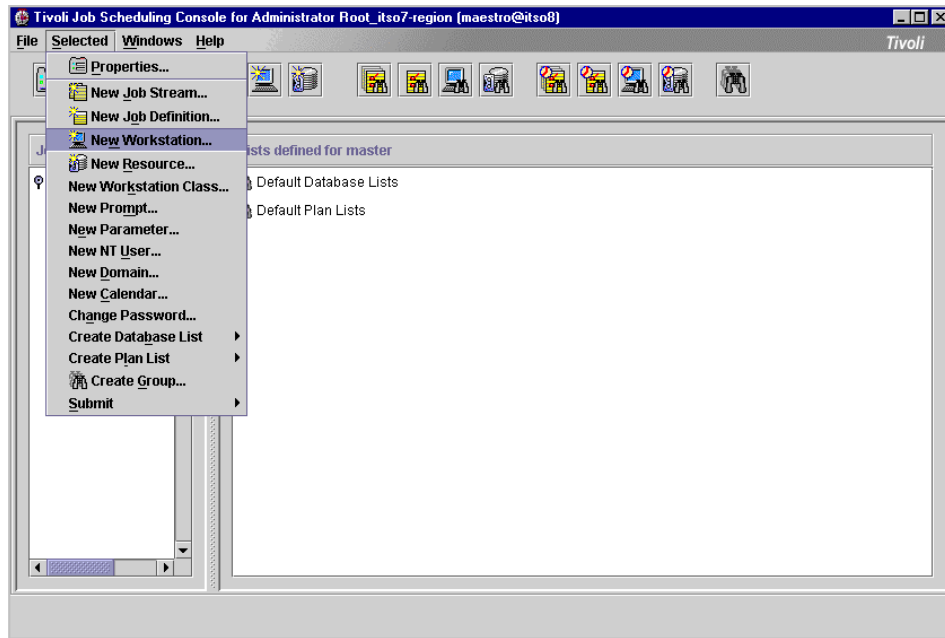

Figure 97. Defining a new SAP R/3 Extended Agent Workstation
2. From the Selected menu, select the **New Workstation...** command. This opens the Properties -Workstation in the Database window as shown in Figure 97 on page 175.